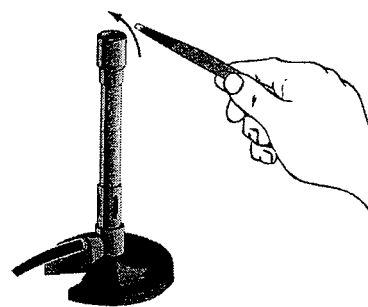

Figure 2.
6. Bring the lit match (or lighter) along side the barrel of the burner and raise it slowly over the edge of the barrel from the side (see Figure 2). If using a flint lighter, hold it slightly off center of the barrel of the burner and a few inches above the tip. Strike the flint lighter to create a spark over the gas coming out of the burner.